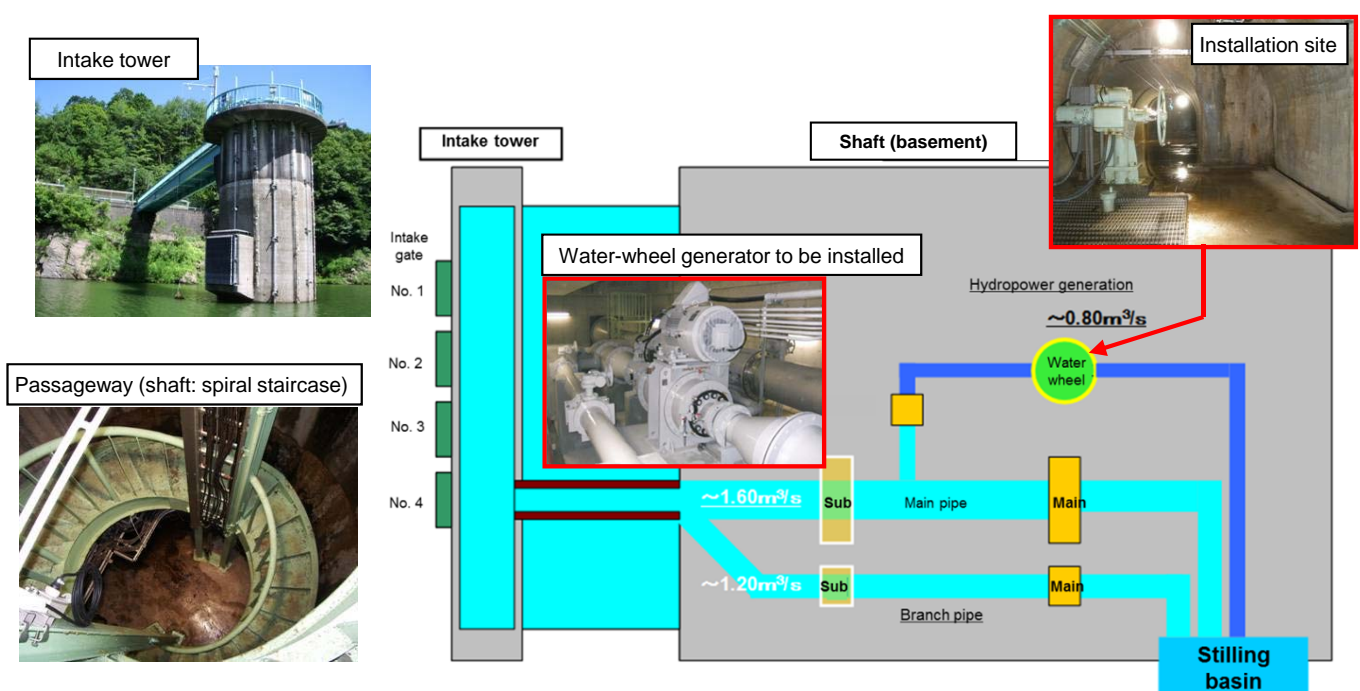

Fig.4-4 Murou Dam
- Murou Dam in Nara Pref.(Fig.4-4)